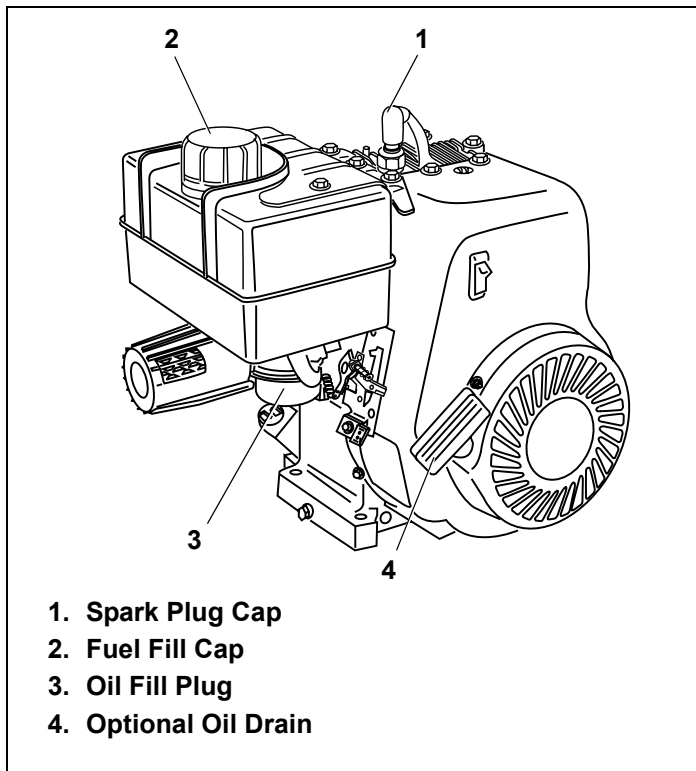

Figure 30. Compact Model Component Locations
1. Be sure you find the correct drain plug location, if provided. See Figures 30, 31 and 32.
3. Be sure the gas cap is on and is tightened securely. See Figures 30, 31 and 32.
4. Clean area around oil drain plug. See Figures 30, 31 and 32.
6. Remove oil drain plug and drain oil. See Figures 30, 31 and 32.